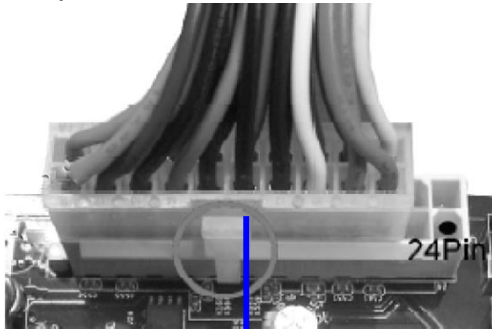

Figure1: 20-pin power plug
- \*\* If you are using a 20-pin power plug, please refer to Figure1 for power supply connection. Power plug form power supply and power connectors from motherboard both adopt key design to avoid mistake installation. You can insert the power plug into the connector with ease only in the right direction. If the